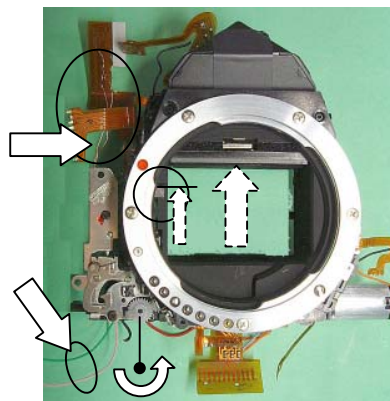

Fig.52
- 2) Set the Front housing block to mirror-up condition. (The mirror sheet, sliding plate and shutter charge lever should be placed at top end position and stroke as shown in Fig.52.)